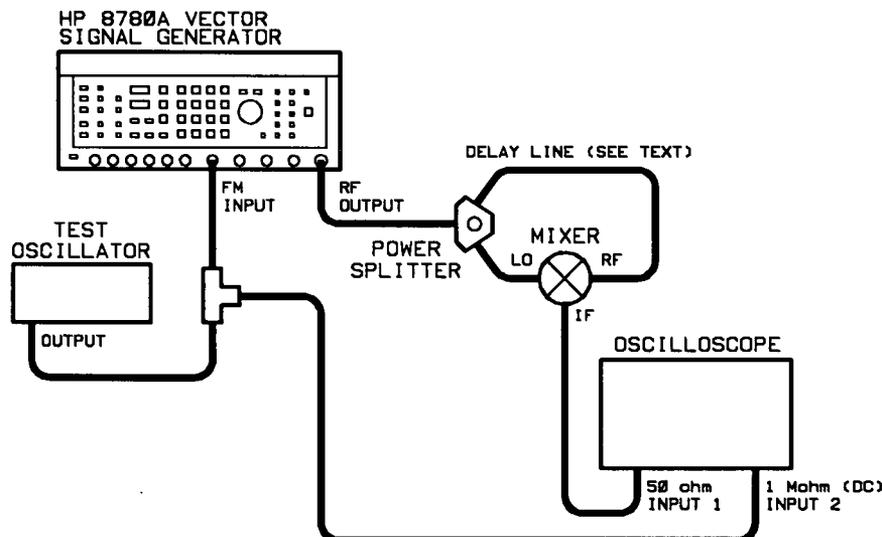

Figure 4-7. FM Rates (ac Coupled) Test Setup
2. Connect the equipment as shown in figure 4-7. The delay line should be made up of two BNC cables for a total cable length of 2 m (8 ft). This cable assembly provides a time delay (phase shift) which is used with an RF mixer to demodulate the Generator RF output signal. The cable assembly length directly affects the sensitivity of the measurement.